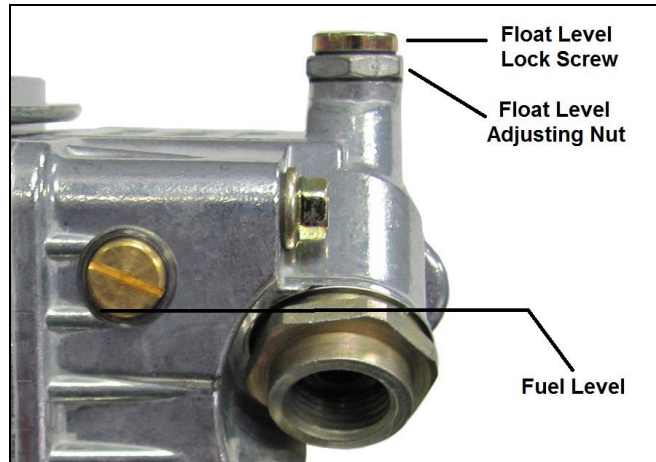

Figure 13
2. Remove the sight plug and observe the fuel level. If none is seen, the level is too low. If it is higher than the bottom of the sight hole, it will spill out when the plug is removed - this is too high. **NOTE:** A properly set float level will have the fuel level located at the bottom edge of the sight hole, as shown by the line in Figure 13.